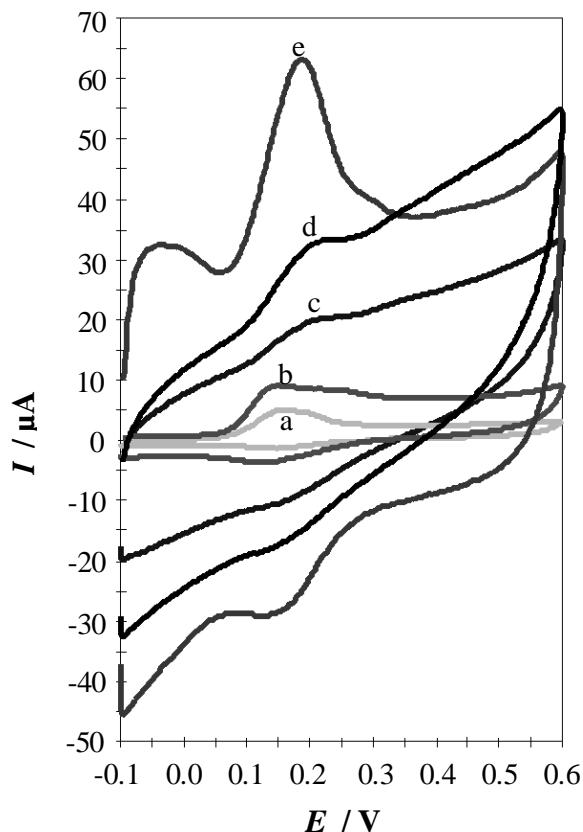

Fig. 1
- (c) The following CVs in Figs. 1 and 2 have been obtained from modified electrodes in the analysis of heparin from a plant *A.sessiliflorus* in 20% 0.1M citric-NaOH (pH = 3.7)and in methanol with scan rate 100 mVs⁻¹. Briefly discuss what transpires from these Figures. (Please see Appendix 1 for information).